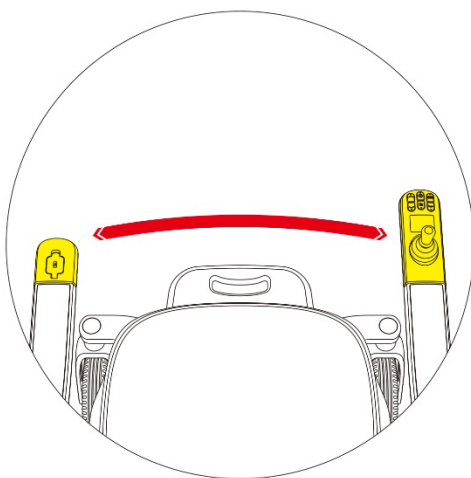

Figure 15
Step 3: Interchange the left and right controllers, connect the harness, insert the left and right controllers into the armrest controller card slot, and use the hexagon wrench to lock the hexagon socket screws. (As shown on Figure 15 &16)